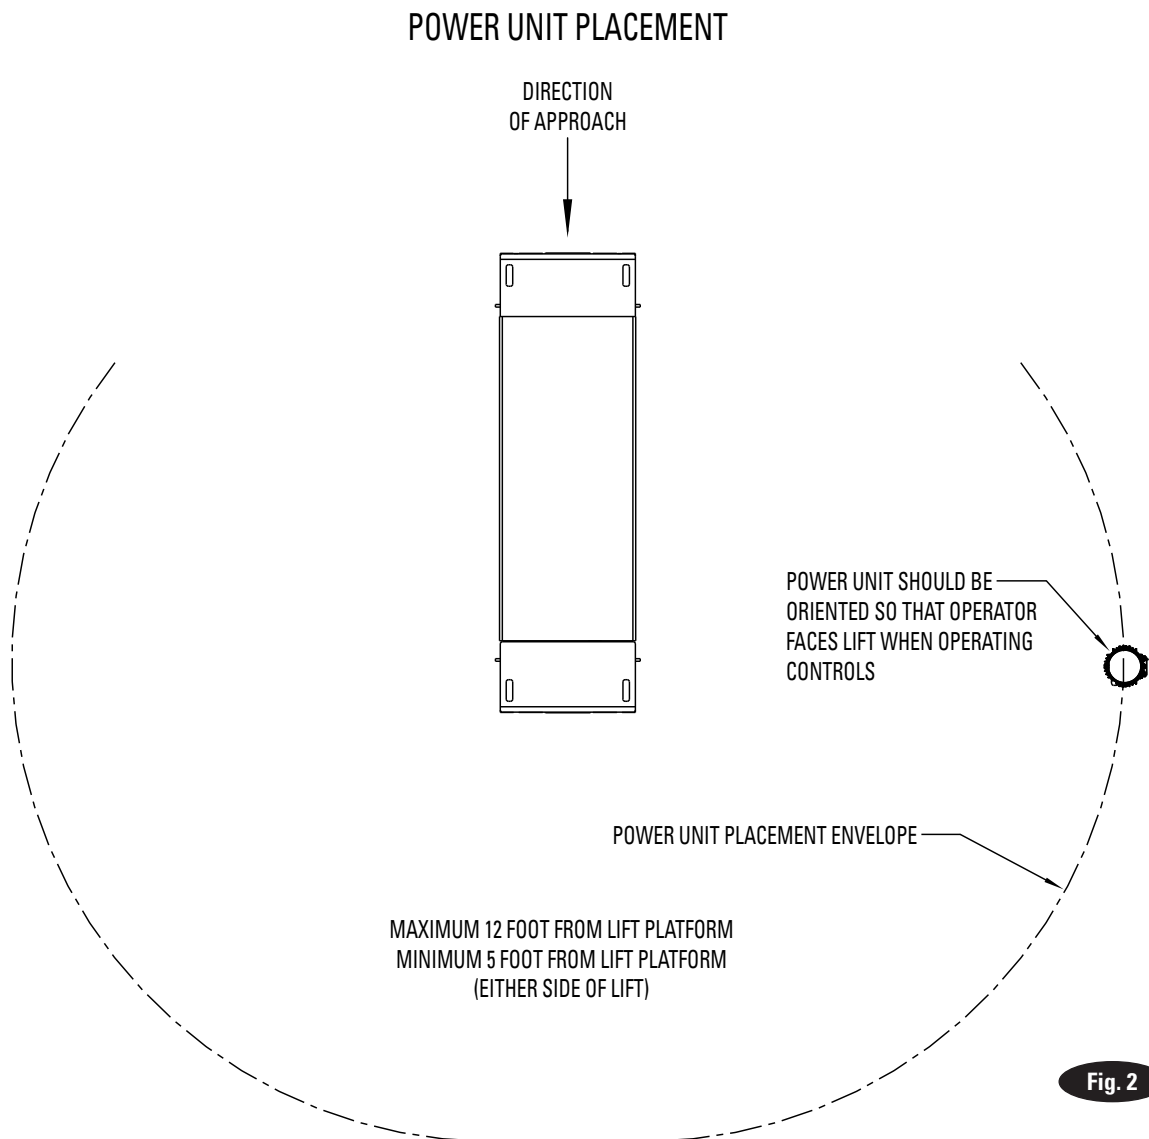

Fig. 2
2. Place the power unit in the approximate location (do not anchor), Fig. 2. Hydraulic hoses should be 1/4" min. ID with a min. working pressure of 4000 psi with #6 JIC Swivel Female fittings. Extension Hose Kits available.
1. Place platform and power unit as shown in Fig. 2. **DO NOT anchor any components at this time.** The power unit should be located on the opposite end of vehicle approach, as shown in Fig. 2. Operator should be in a position to notice any misalignment of lifting pads during operation. Rotary Lift does not recommend placing the power unit in a different location orientation and doing so would be the responsibility of the installer and/or end user.